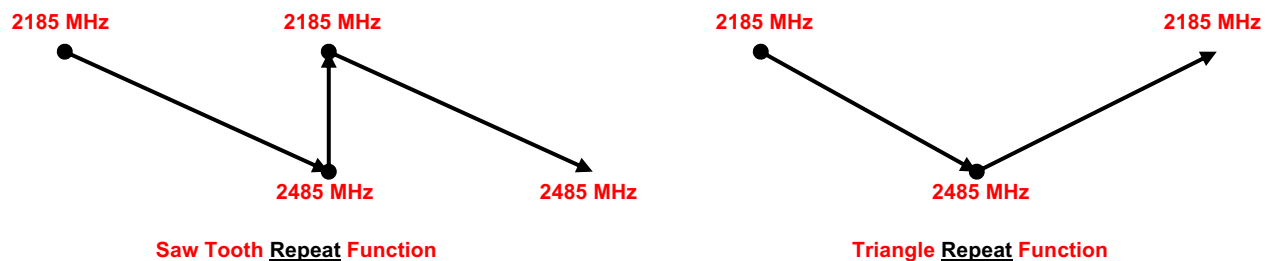

Figure 4-87
- F. **Repeat** - The **Repeat** feature is a pull-down menu feature which allows the step function to be a one-time occurrence by selecting **Single (none)**, or as a repeat **Saw Tooth** or **Triangular** pattern. Figure 4-87 shows how this **Repeat** function works, using a level step range of 2185 MHz to 2485 MHz as an example.